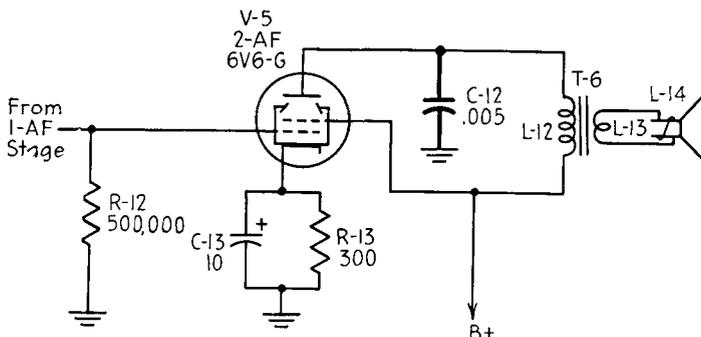

FIG. 10-1. Standard circuit for a typical second AF stage.
**Standard circuit.** Figure 10-1 represents our standard second AF stage.